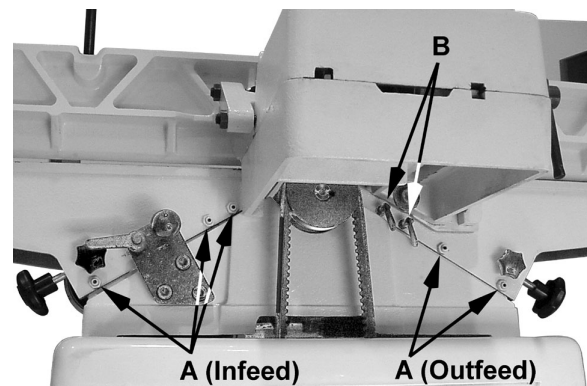
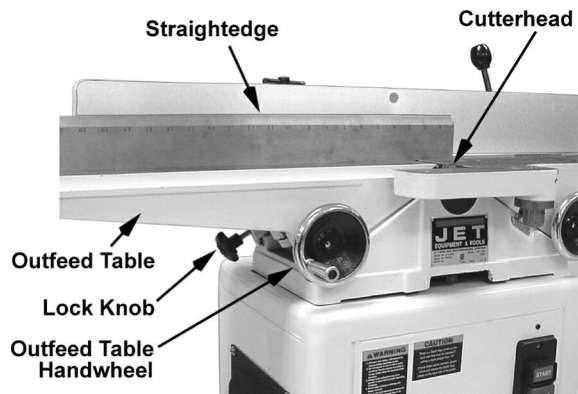

Figure 8-8
Figure 8-9
To adjust (refer to Figure 8-8):
3. Place a straightedge upon the outfeed table and extend it over the cutterhead (Figures 8-9 and 8-10).
5. Loosen both *gib lock screws* (B, Fig. 8-8) and the *lock knob* (Figure 8-9).
7. Lock the *outfeed table* at that setting by tightening the *lock knob* (Figure 8-9) and *gib lock screws* (B, Fig. 8-8). The outfeed table adjustment is complete.